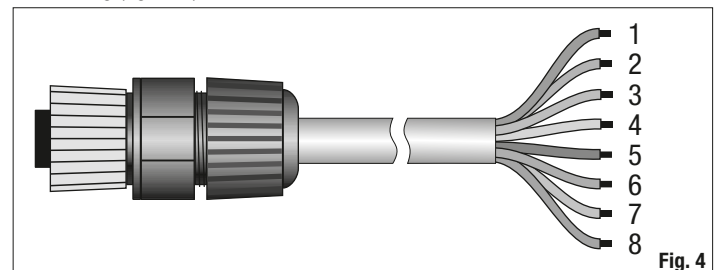

Fig. 4
- The optional cable, ending with a connector by one side, is made in PTFE resistant to UV and is provided with 7 wires plus braid (screen), the diagram with the correspondence between cable colours and connector poles is the following (figure 4):